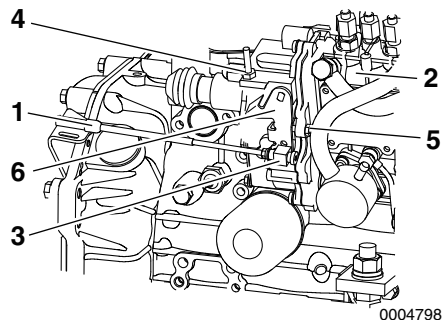

Figure 4
Never adjust the high-speed stop bolt **(Figure 4, (4))** on the governor. This will void the engine warranty.